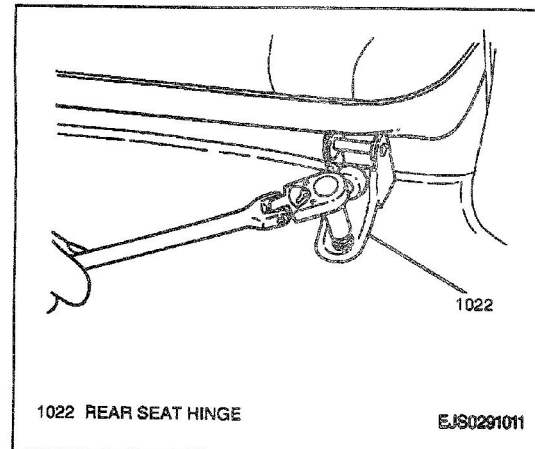

Figure 15—Removing Rear Seat Anchor Bolt
2. One front anchor bolt from each rear seat hinge and seat from vehicle (Figure 15).